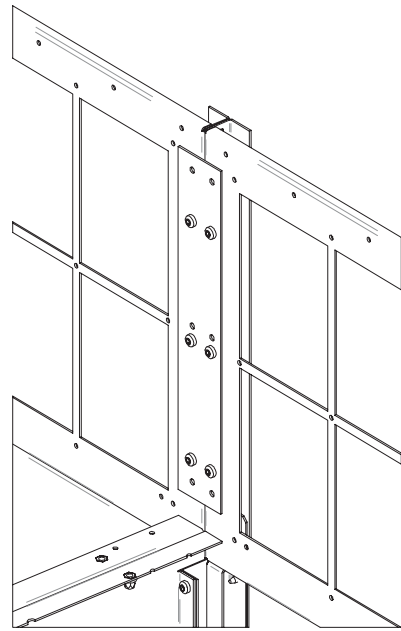

Figure 45. Screws for the top joining plate
b) Screw the joining plate and the unit plates together (with 6 Torx M6x12 screws) so that they are fully tightened. Insert a bolt (M8x20 round-headed with square neck) with a nut (M8 hexagonal nut with flange) (figure 45) to tighten the units and the joining plate.